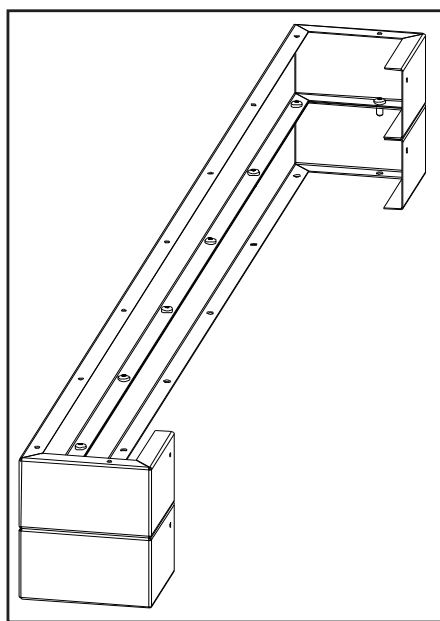

Figure 34: Combining 2 Base Shelf Riser.
2. When using more than one riser each level must be attached using nine (9) #8 T-20 screws provided (see Figure 34).